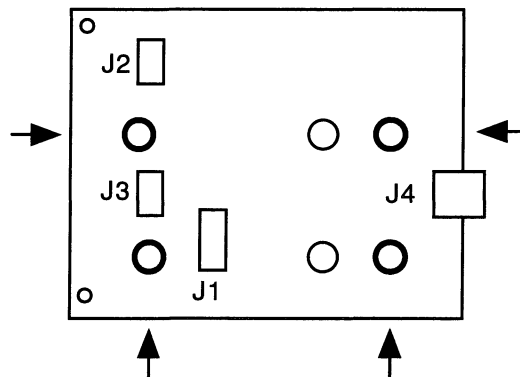

Figure 19 - MR-76 Wheels/Pressure Board Standoff Locations
1. Press the four (4) standoffs into the holes in the new wheels/pressure board as shown in figure 19:
2. With the wheels/pressure board beneath the support bracket, snap the black cable-retaining clip into the far left holes shown in figure 19 above.